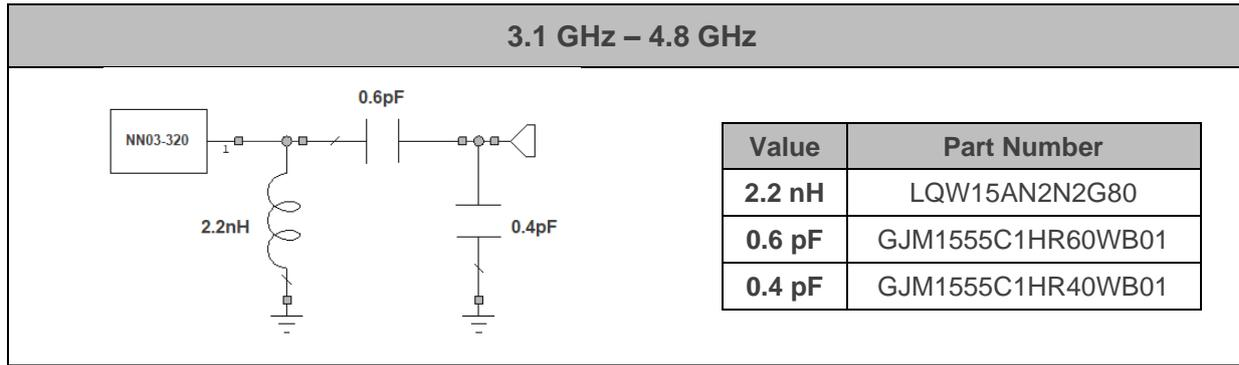
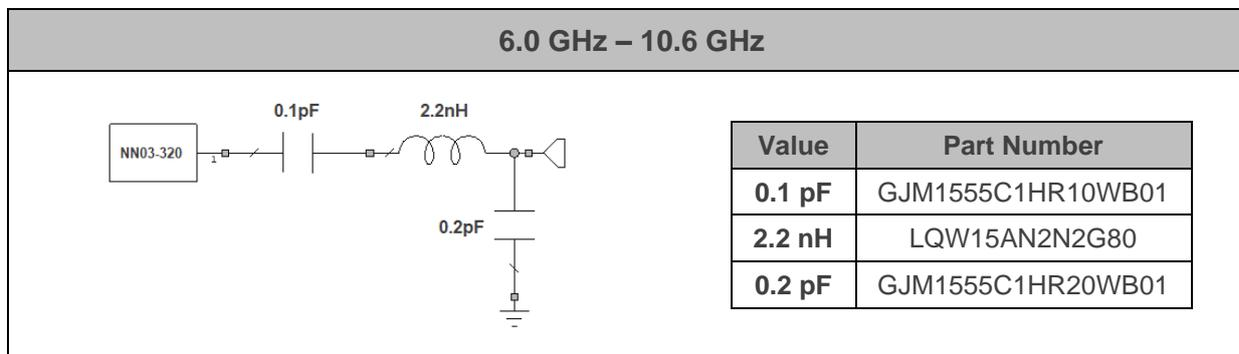

Figure 12 – Matching network implemented in the Evaluation Board (**Figure 11**) for covering the low frequency region from 3.1GHz to 4.8GHz.
Figure 13 – Matching network implemented in the Evaluation Board (**Figure 11**) covering the high frequency region from 6.0GHz to 10.6GHz.
The antenna performance is always conditioned by its operating environment. Different devices with different printed circuit board sizes, components nearby the antenna, LCD's, batteries, covers, connectors, etc. may need a different matching network. Accordingly, it is highly recommended placing pads compatible with 0402 and 0603 SMD components for a matching network as close as possible to the feeding point of the antenna element in the ground plane area, not in the clearance area. This provides a degree of freedom to tune the DUO mXTEND™ antenna booster once the design is finished and taking into account all elements of the system (batteries, displays, covers, etc.). To ensure optimal results, the use of high-quality factor (Q) and tight tolerance components is highly recommended (e.g. Murata components (Figure 12)).
Figure 14 – VSWR and total efficiency for the UWB LFR (3.1GHz – 4.8GHz) and for the UWB HFR (6.0GHz – 10.6GHz) from the Evaluation Board (**Figure 11**) with the matching networks gathered in **Figure 12** (LFR UWB) and **Figure 13** (HFR UWB), respectively. Simulated results obtained with CST.
Table 7 – Antenna gain and total efficiency from the Evaluation Board (Figure 11) for 3.1GHz – 4.8GHz with the matching network of Figure 12. Simulated results obtained with CST.